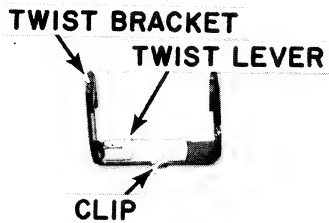

FIGURE 11
1. Remove the twist lever from the clip, see Figure 11.